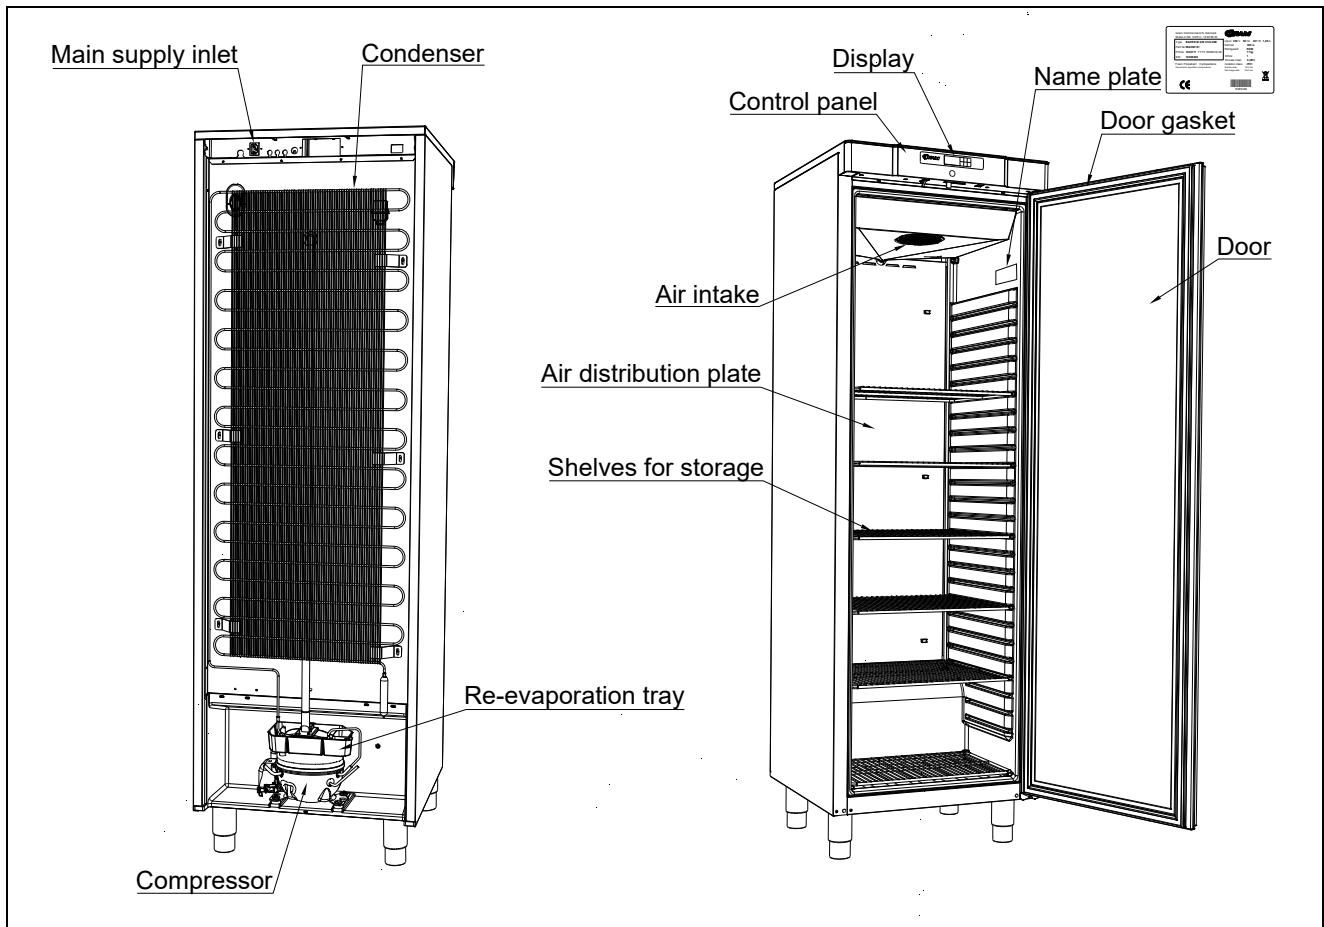

Fig. 6
The product is intended for connection to alternating current. The connection voltage (V) and frequency (Hz) are shown on the name plate in the cabinet (see Fig.6). Only the supplied cord is to be used.